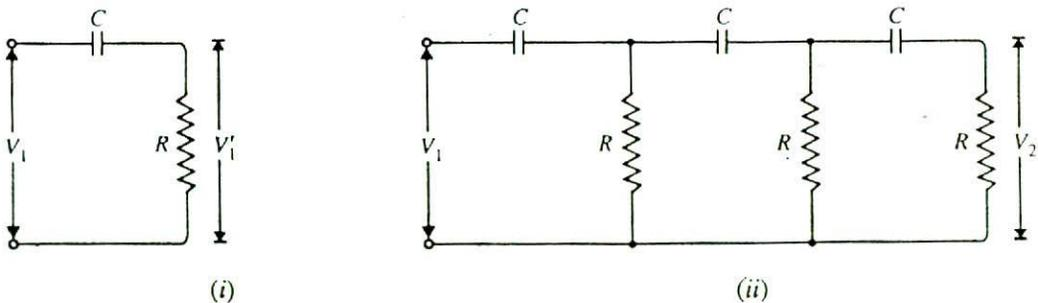

Fig. 16.16
**Phase shift circuit.** A phase-shift circuit essentially consists of an  $R$ - $C$  network. Fig. 16.16 (i) shows a single section of  $RC$  network. From the elementary theory of electrical engineering, it can be shown that alternating voltage  $V_1'$  across  $R$  leads the applied voltage  $V_1$  by  $\phi^\circ$ . The value of  $\phi$  depends upon the values of  $R$  and  $C$ . If resistance  $R$  is varied, the value of  $\phi$  also changes. If  $R$  were reduced to zero,  $V_1'$  will lead  $V_1$  by  $90^\circ$  i.e.  $\phi = 90^\circ$ . However, adjusting  $R$  to zero would be impracticable because it would lead to no voltage across  $R$ . Therefore, in practice,  $R$  is varied to such a value that makes  $V_1'$  to lead  $V_1$  by  $60^\circ$ .
Fig. 16.16 (ii) shows the three sections of  $RC$  network. Each section produces a phase shift of  $60^\circ$ . Consequently, a total phase shift of  $180^\circ$  is produced i.e. voltage  $V_2$  leads the voltage  $V_1$  by  $180^\circ$ .